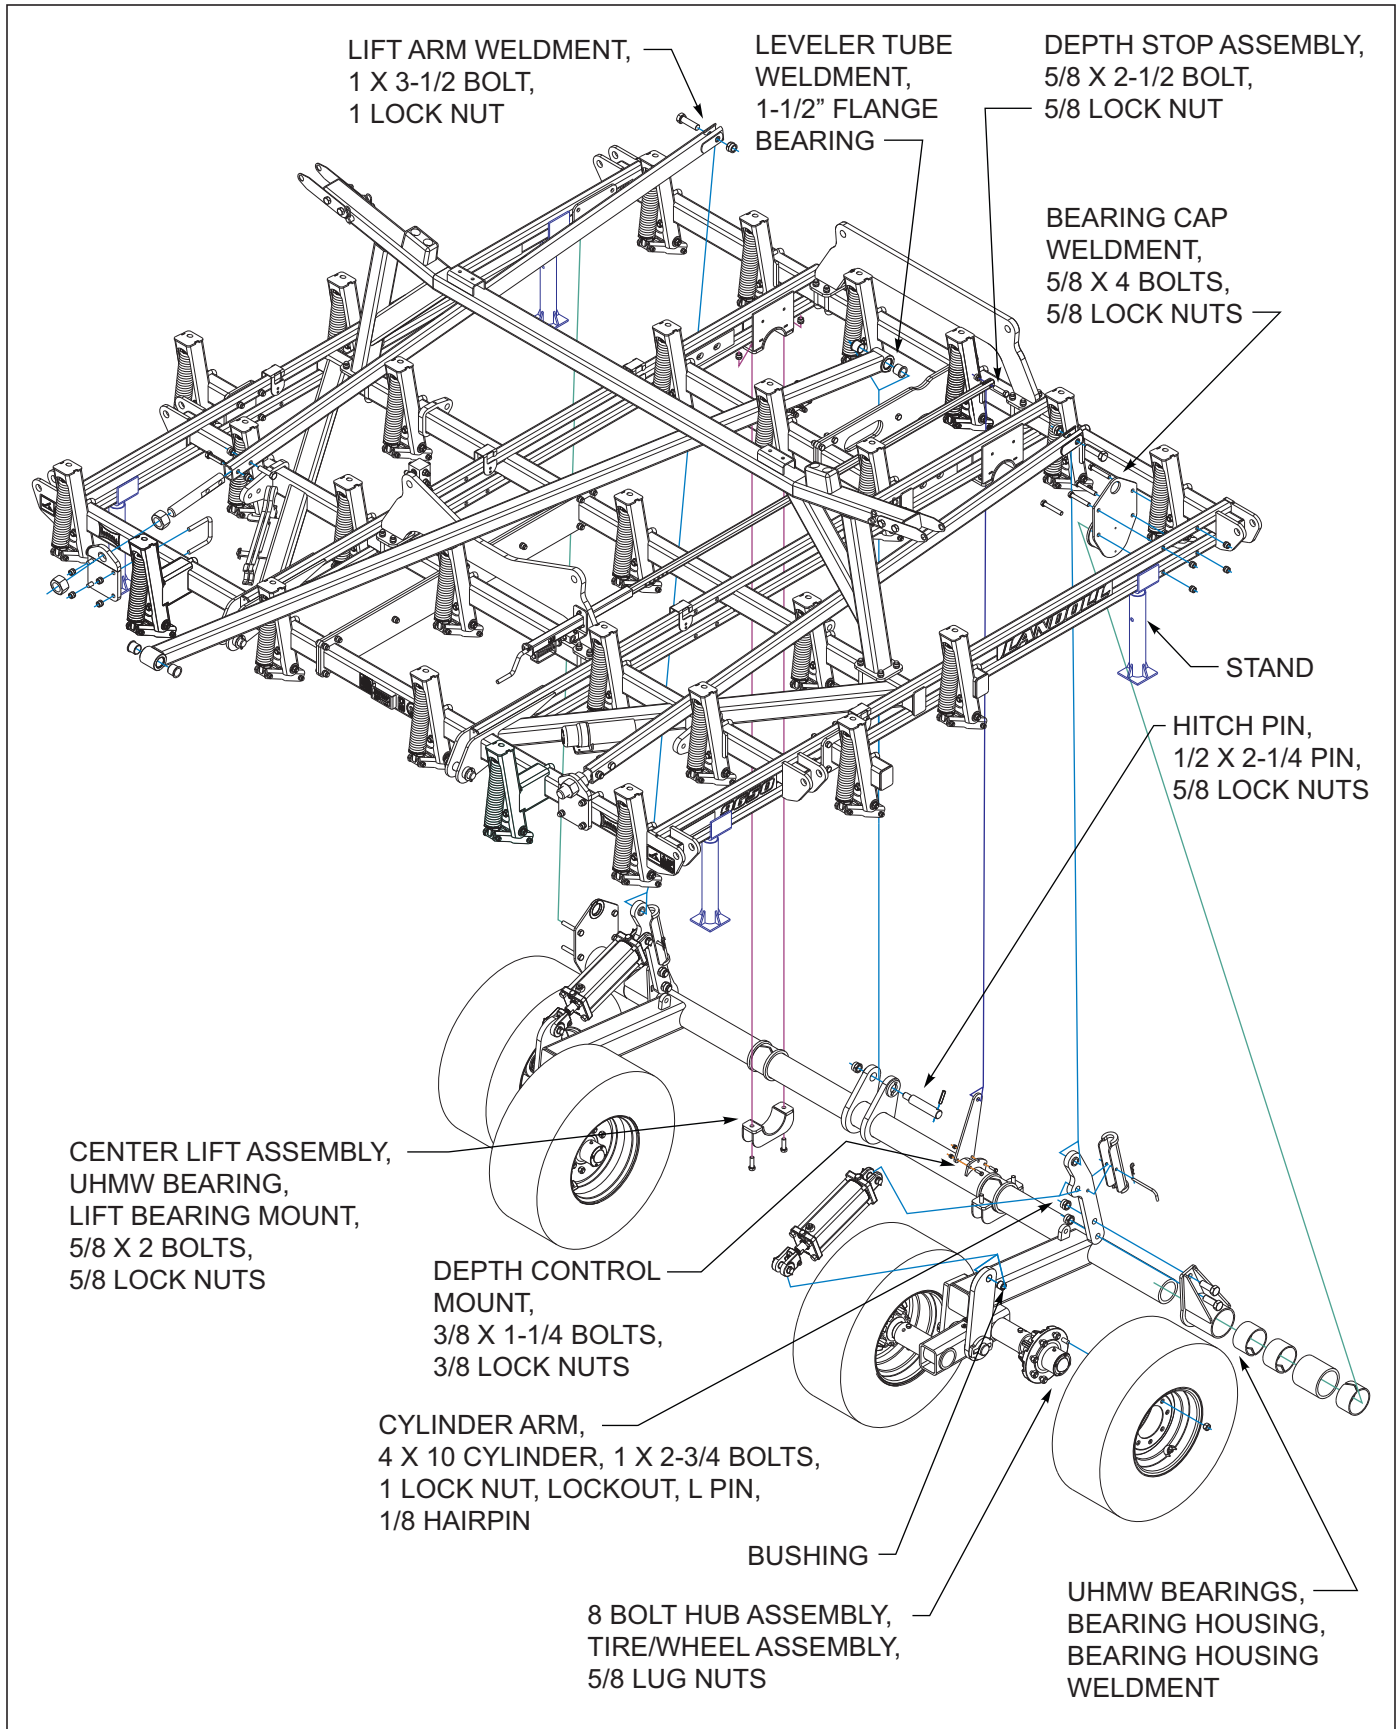

Figure 3-2: Center Lift Assembly
2. Install a UHMW bearing between both lift bearing mounts around the center lift assembly *See Figure 3-2*.
11. Attach the leveler tube weldment under wing stabilizer, on top of front fold cylinder mount as shown *See Figure 3-2*. Install rear of the leveler tube weldment between plates of center lift assembly with hitch pin, 1/2 x 2-1/4 pin and 5/8 lock nut.